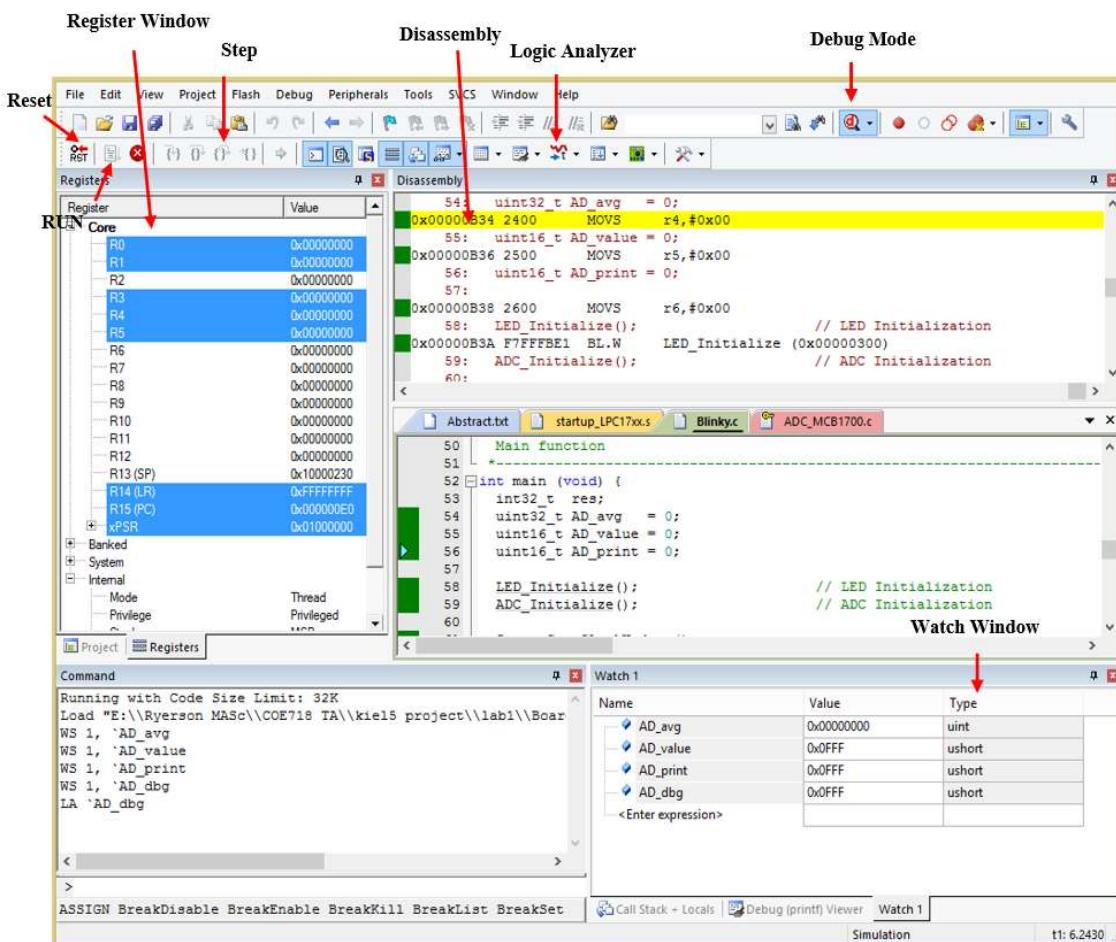

Figure 16: uVision Debug Window
Enabling printf: Project >> Options for Target 'SWO Trace'. Select the Debug tab (see Figure 16), select "Use" on the right side, and then click the Settings box. Under the Trace tab, click "Trace Enable". Ensure that the Core Clock is set to 96 MHz, and that the SWO Clock has "Autodetect" enabled. In the ITM Stimulus Ports, set Enable to 0xFFFFFFFF, and ensure that the lower port checkbox, Port 7.0 is unchecked. Click OK. In the "Options..." window, select "Use Simulator" once again. Click OK. Also notice the source code necessary in `Blinky.c` to support the printf function.
Enter the Debug mode by clicking on the  icon. A window will pop up displaying: "EVALUATION MODE Running with Code Size Limit:32K", Click OK and uVision will transform into new successive multiple windows, including the disassembled version of your *.c code. If you have entered the Debug mode correctly, you will see a number of windows pop up which will allow you to examine and control the execution of your code. You should observe something similar to that of Figure 16 window. The Debug mode will connect uVision to a simulation model of your program, downloading the project's image into the microcontroller's simulated memory.
- **Steps** - (See Figure 16) As opposed to running through the whole code, the step keys allow you to step through your code line by line, step through a function, etc.
The register window (see Figure 16) displays the contents of the CPU's register file (R0 - R15), the program status register (xPSR), the main stack pointer (MSP) and the process stack pointer (PSP). This window will automatically open when transitioning to Debug mode. These registers may be used for debugging purposes, in conjunction with the watch window, steps, and breakpoints.